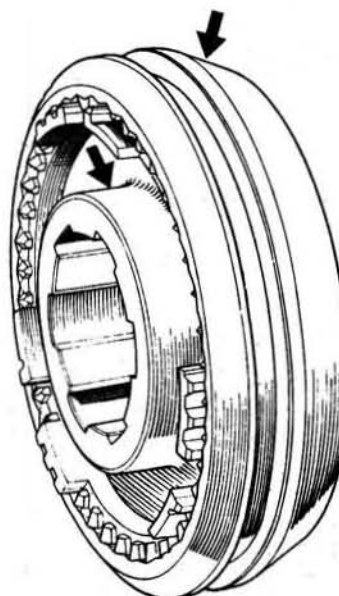
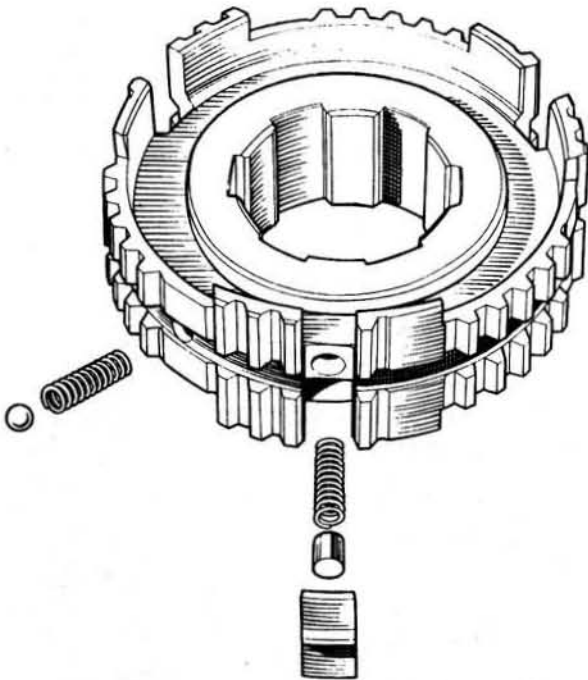

Fig.6.20. Assembly of the synchro hub and operating sleeve
Fig. 6.21. Showing the relative positions of the detent ball, plunger and thrust member
- 2 Assemble the synchro hub to the operating sleeve so that the wide boss of the hub is on the opposite side to the wide chamfer end of the sleeve as depicted in Fig.6.20, and so that the three balls and springs will be in line with the teeth having three detent grooves (Figs.6.21 and 6.22).